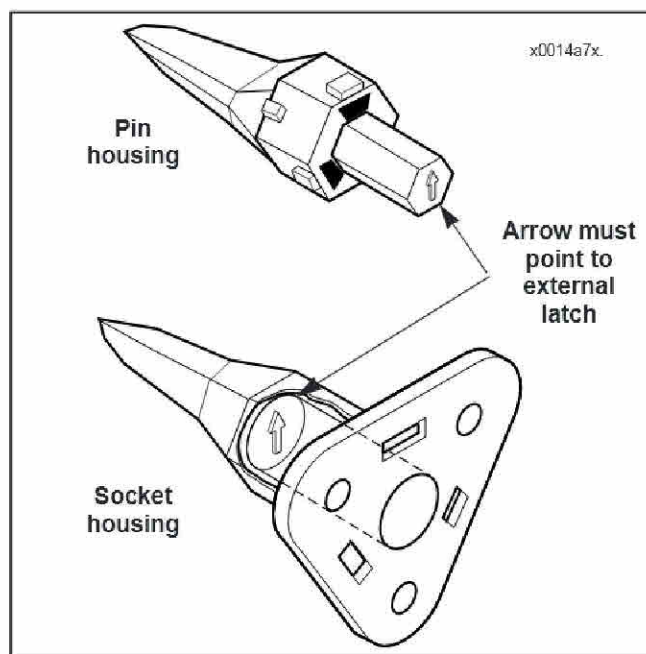

Figure 13. Secondary Lock Positioning
- See Figure 13. Install secondary lock with arrow positioned as shown.